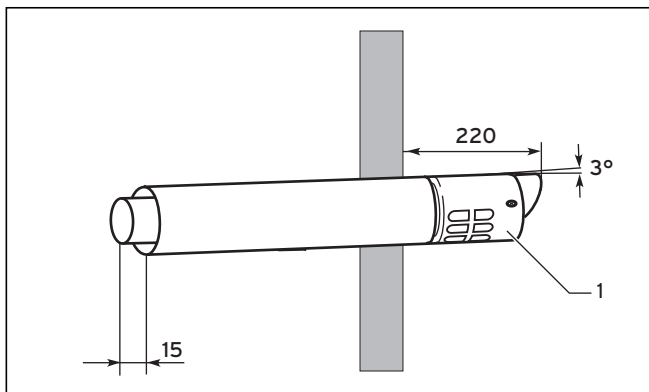

**Fig. 2.10 Flue duct**
- Cut the flue duct as detailed in fig. 2.10.